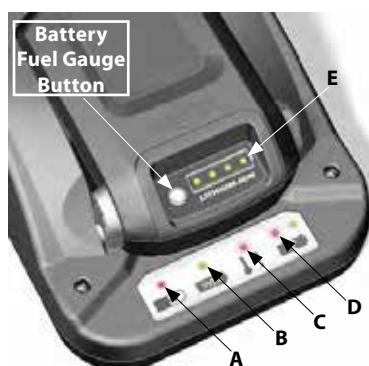

Figure 4-10
- Red light (A), Figure 4-10 indicates battery pack is charging normally.
- Green light (B) indicates battery pack is fully charged.
- FLASHING red light (C) indicates battery pack is either too hot or too cold and will not accept a charge. Leave battery pack connected and when normal operating temperature is reached it will automatically start charging.
- FLASHING red/green lights (D) indicate that battery pack will not charge and must be replaced. See Lithium Ion Battery Pack Disposal section.
To check available charge, press the Battery Fuel Gauge button. The display lights (E), Figure 4-10 will indicate the approximate amount of charge remaining in battery pack.
As Required - To check available charge, press the Battery Fuel Gauge button and charge if required. See Figure 4-10. Refer to the **Battery Fuel Gauge** section on page 14.